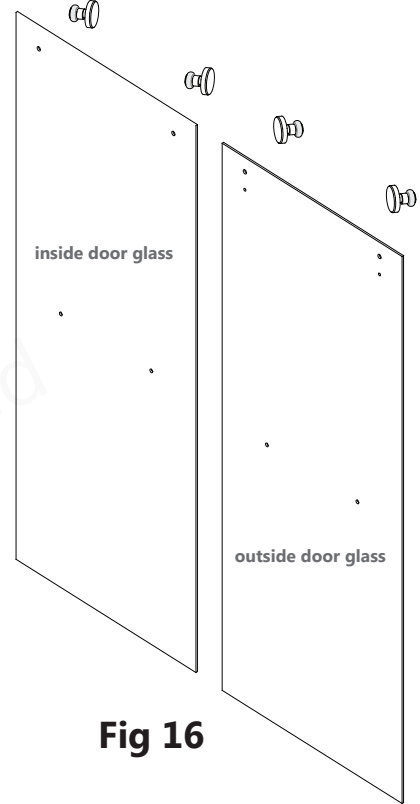

Fig 16
16. Remove the cap and screw from the **Rollers (#04)** and attach the **Rollers (#04)** to the **Inside Door Panel (#12)** and to the **Outside Door Panel (#13)**. (Fig 16 and Fig 17)